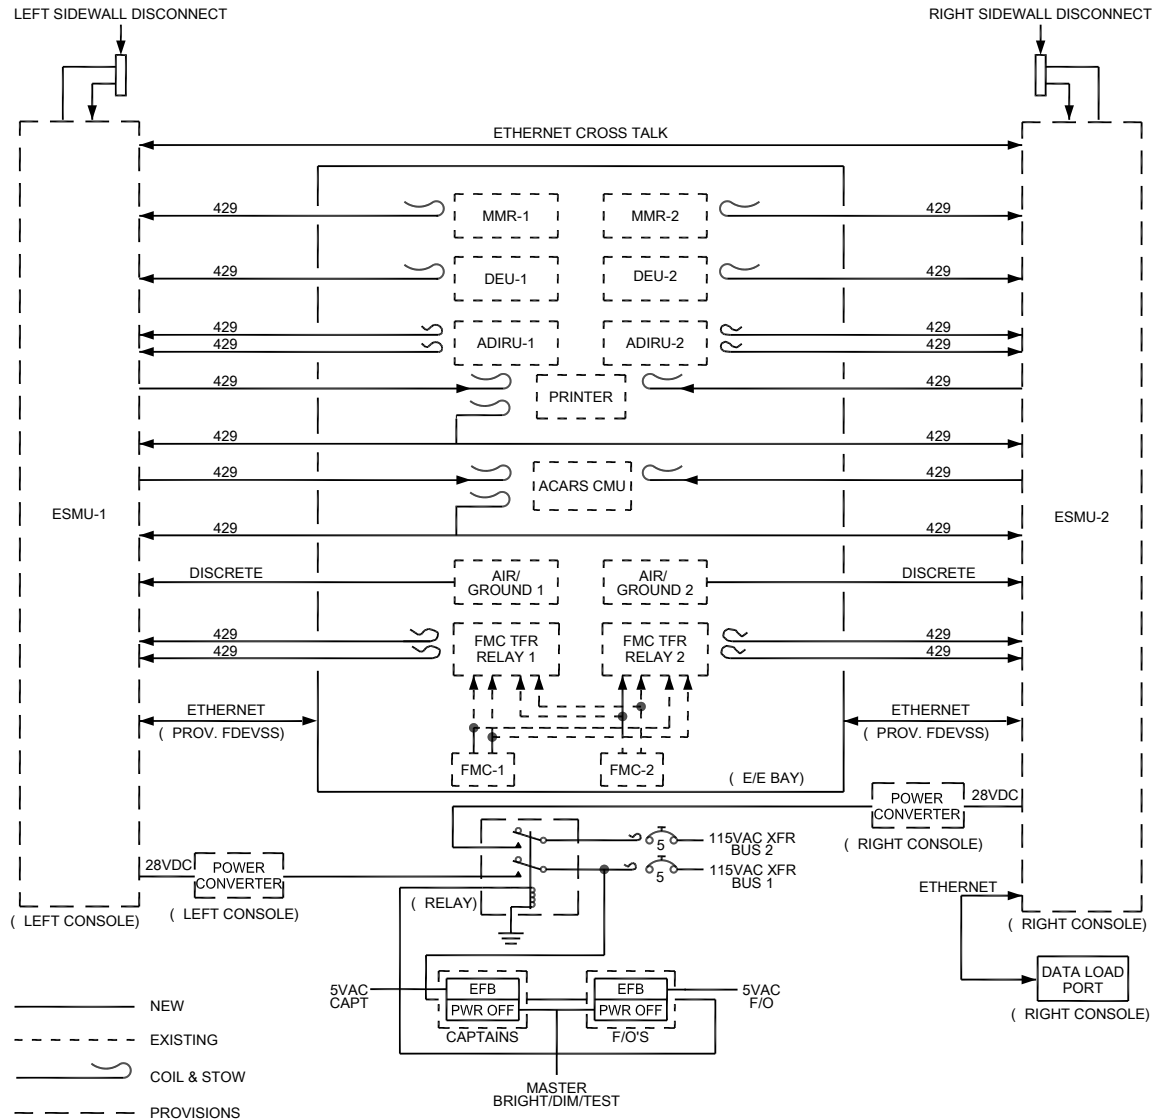

Figure 8 - EFB System Block Diagram
The following electrical changes are made for Configuration 1. See block diagram Figure 8.
- » Captain's ESMU discrettes for EDU left/right position, parity and aircraft model will be connected to aircraft ground. Discrettes not shown in Figure 8.
- » First officer's ESMU discrettes for EDU left/right position, parity and aircraft model will be connected to aircraft ground. Discrettes not shown in Figure 8.